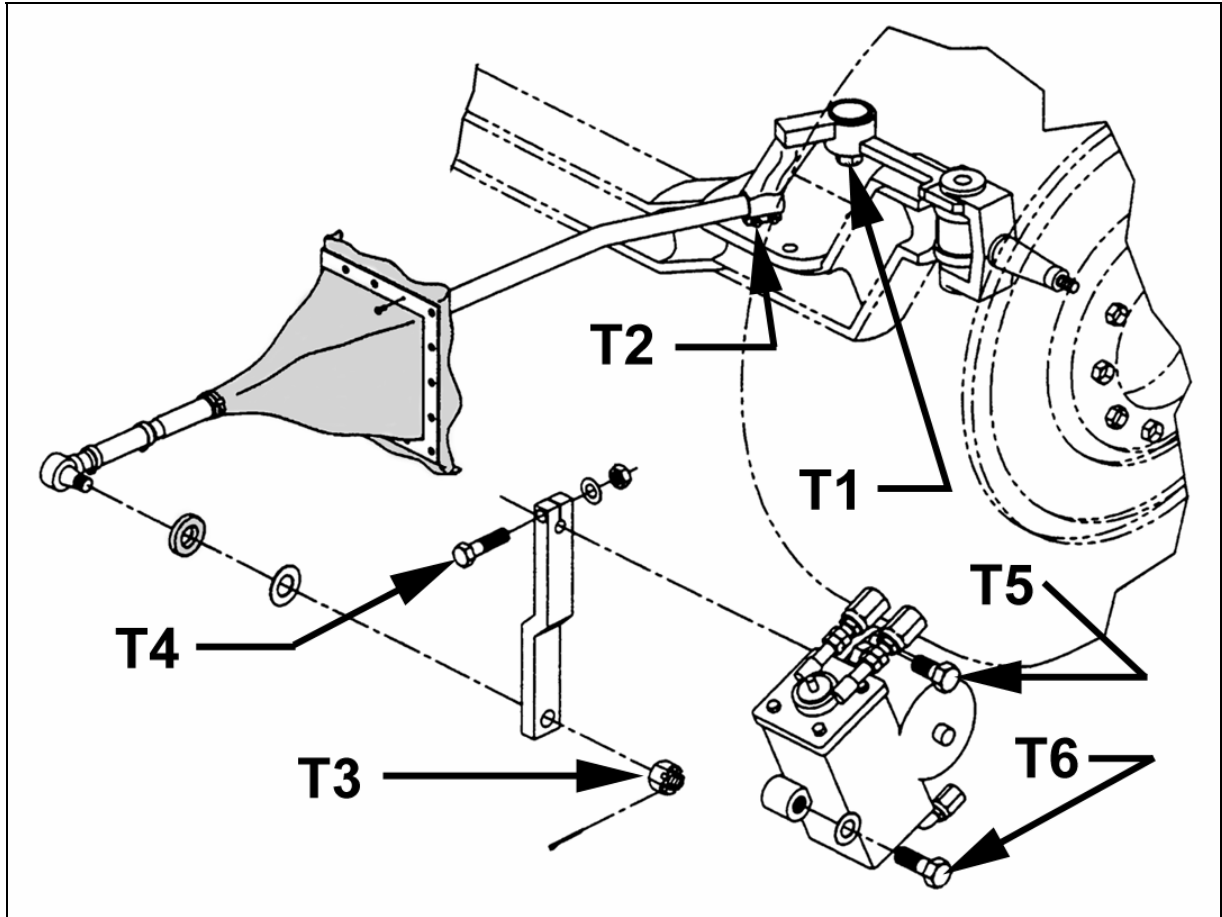

FIGURE 9: DRAG LINK COMPONENTS
| Drag Link End Stud Nut (on steering arm) | Fig. 9, T1 | 160-300 | 220-410 |
| Drag Link End Pinch Bolt Nuts | Fig. 9, T2 | 50-65 | 70-90 |
| Drag Link End Stud Nut (on pitman arm) | Fig. 9, T3 | 160-300 | 220-410 |
| Pitman Arm Mounting Bolt | Fig. 9, T4 | 280-300 | 380-410 |
| Steering Gear Fixing Bolts (6) | Fig. 9, T5 | 290-310 | 395-420 |
| Steering Gear Fixing Bolt | Fig. 9, T6 | 490-510 | 665-695 |